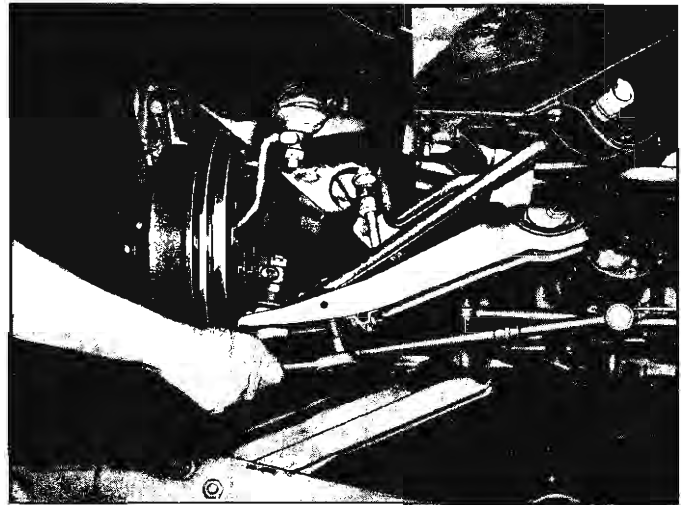

Fig. 18—Disconnecting Strut Rod Rear Mounting Studs—Chevy II Shown
3. Remove two nuts from strut rod to lower control arm bolts and remove bolts and washers (fig. 18).